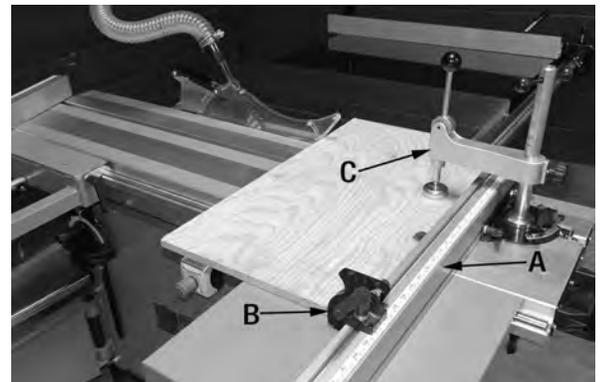

FIGURE 58
Install the mitre fence (A) Fig.58 on the sliding table perpendicular to the blade (90°). Set the mitre fence stop plate (B) to the desired width of cut. Place your workpiece onto the main table and the sliding table. Secure the board to the sliding table by using the holddown (C). The work can then be fed through the saw blade by pushing the sliding table towards the blade.
Install the mitre fence on the sliding table in the desired angle. Set the mitre fence stop plate (B) Fig.58 to the desired width of cut. Place your workpiece onto the main table and the sliding table. Secure the board to the sliding table using the holddown (C). The work can then be fed through the saw blade by pushing the sliding table towards the blade.